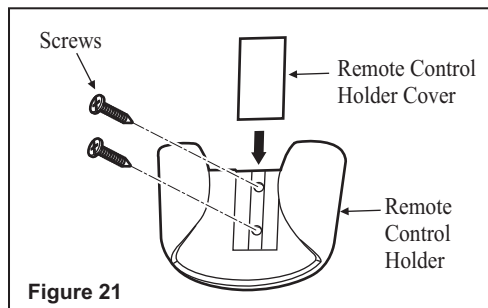

Figure 21
**Step 2.** Attach the remote control holder with the two remote control holder mounting screw provided. (Fig. 21)